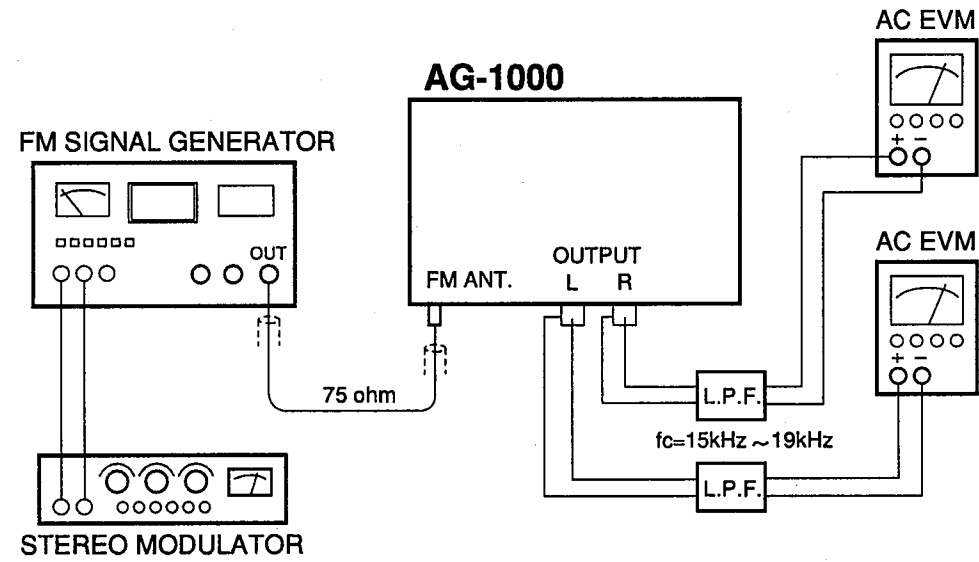

Fig. 3
1. Test equipment connections are shown in fig. 3.